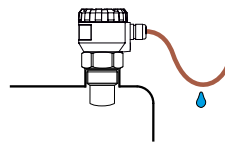

Fig. 12: Prevention of humidity ingress by droplets running down the cable
- It is suitable to run the cable under a cable bushing (obliquely down in slack) according to Fig. 12 to prevent penetration of humidity. Then the rain and condensing water can flow off freely.